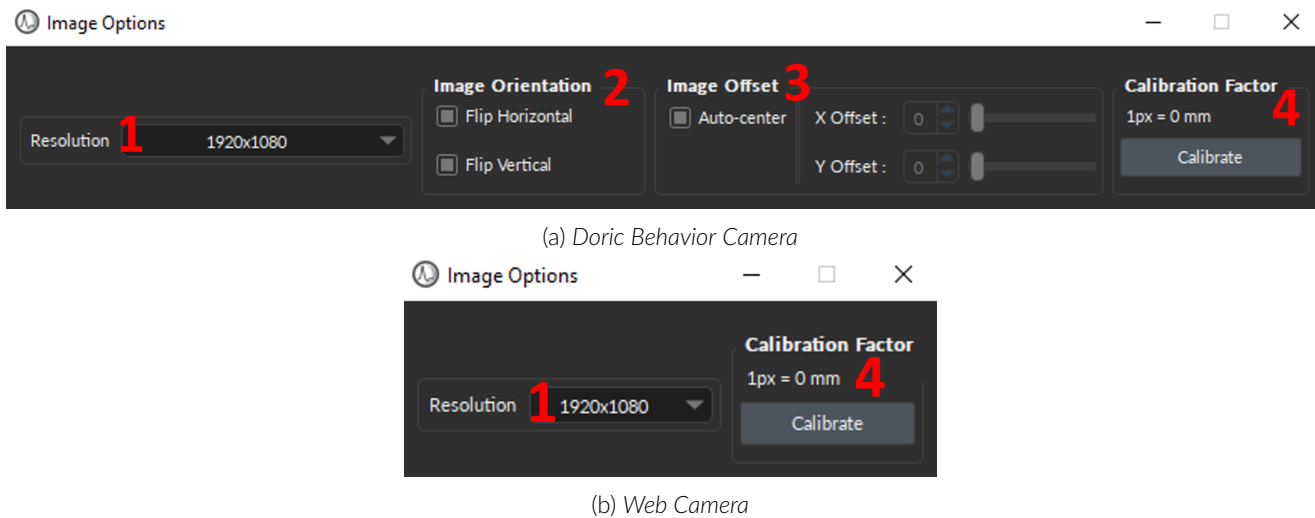

Figure 11.100: Camera Image Options
1. The **Resolution** (Fig. 11.100, 1) specifies the width x height of the camera image in pixels. Larger width and height will have better resolution, but will also make for larger files. The available resolution ranges between 368x256 to 1920x1080.
2. The **Image Orientation** (Fig. 11.100, 2) contains parameters that control the direction of the image displayed in the **Acquisition View**:
3. The **Image Offset** (Fig. 11.100, 3) parameters are available when the **Resolution** of the image is smaller than the maximum available (1920 x 1080), essentially cropping the saved image feed. Note that the available offset depends on the difference between the maximum and current **Resolutions** and is independent of the **Image Zoom**.
4. The **Calibration Factor** (Fig. 11.100, 4) contains: